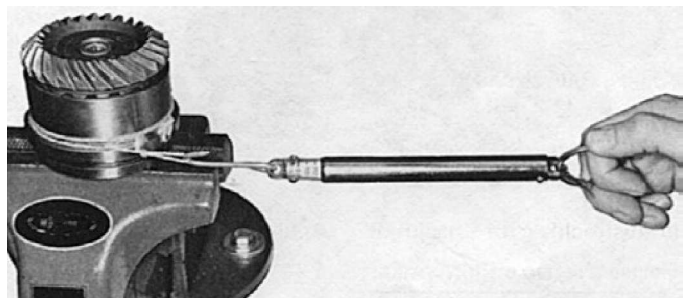

Fig. 9.
**NOTE:** Protect the tops of the gears. Rotate the drive a few turns to ensure that the bearings bed down properly. Check the tension by using a spring balance and a cord, which is wound round the bearing housing, see Fig. 9. The tension should be 0.5–1.0 kp (1.1–2.2 lb.). If the tension is too low, carefully apply a little more pressure to the roller bearing; and if it is too high, ease the pressure on the roller bearing slightly.